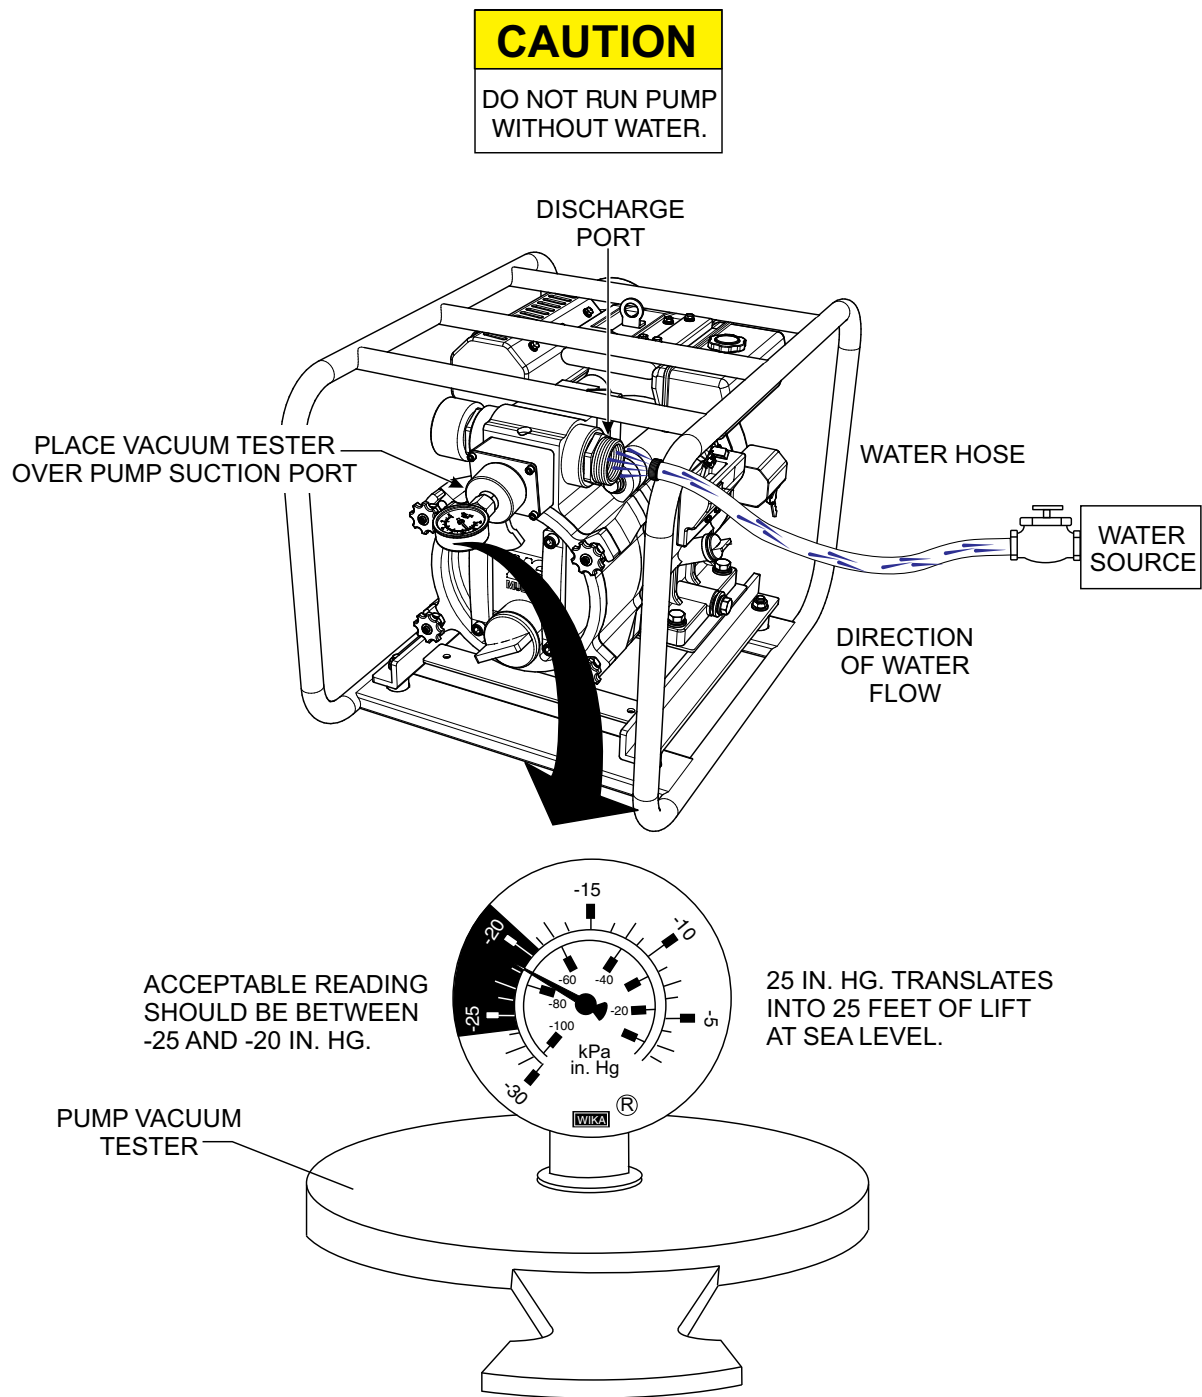

Figure 11. Pump Vacuum Tester
3. As shown in Figure 11, place a water hose inside the discharge opening of the pump, and turn on the water. This flow of water into the discharge opening will **prevent** the pump from running dry.
4. Place the Pump Vacuum Tester (P/N 7000030) over the pump suction (inlet) opening (See Figure 11) with the vacuum gauge facing upwards. It may be necessary to apply a small amount of water around the rubber seal of the vacuum tester to make a good suction fit.